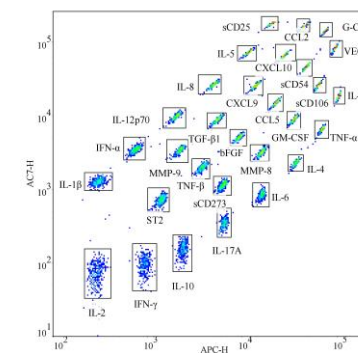

Figure 2
- Create an APC-H/APC-Cy7-H scatter plot. From the P1-gated bead population, identify individual bead populations and gate each cytokine-specific bead population using rectangular gates (Figure 2).